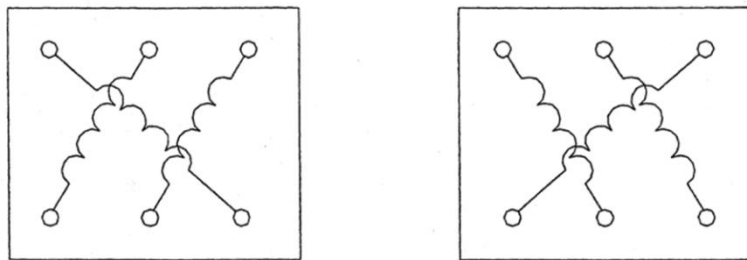

Figure 3 - Six terminal Motor terminal blocks.
25. **Six Terminal Motor** If the motor terminal block has six terminals the coils for each phase would usually be connected in one of two ways - as shown in Figure 3. If the motor is connected in star or delta at the terminal block the links should be removed. A reading of greater than $200M\Omega$ between any pair of coil terminals would indicate an open circuit.